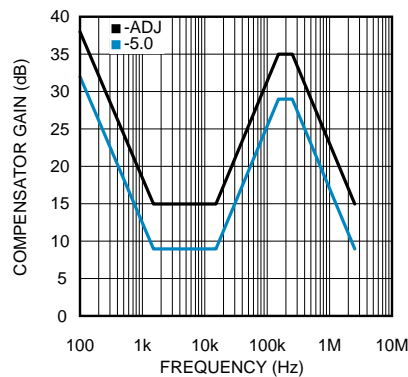

Figure 11. Compensator Gain
The complete transfer function for the regulator loop is found by combining the compensation and power stage transfer functions. The LM22675 has internal type III loop compensation, as detailed in Figure 11. This is the approximate "straight line" function from the FB pin to the input of the PWM modulator. The power stage transfer function consists of a dc gain and a second order pole created by the inductor and output capacitor(s). Due to the input voltage feedforward employed in the LM22675, the power stage dc gain is fixed at 20 dB. The second order pole is characterized by its resonant frequency and its quality factor (Q). For a first pass design, the product of inductance and output capacitance should conform to Equation 3.